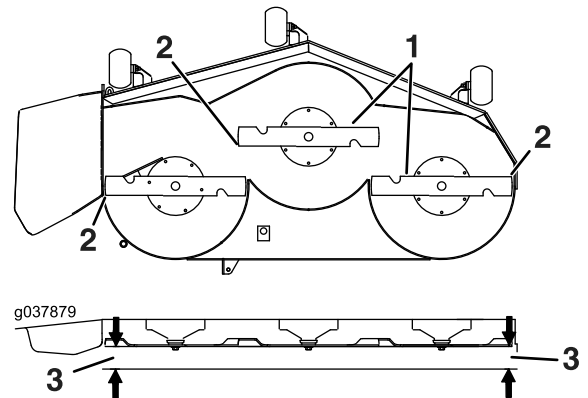

Figure 72
6. Measure between the blade tip and the flat surface (Figure 72). If both measurements are not within 5 mm (3/16 inch), adjust the leveling; continue with this procedure.
12. Carefully rotate the blades side to side (Figure 72).